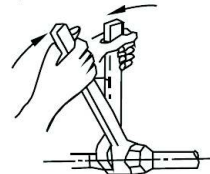

Fig.6-4
- Be sure to use both a spanner and torque wrench together when connecting or disconnecting pipes to /from the unit. (Fig.6-4)